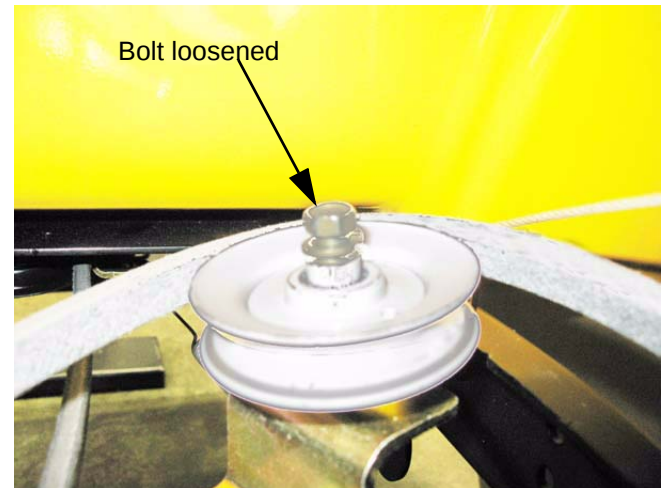

Figure 6.37
1. Remove the upper drive belt from the make-up tensioner pulley as described in the drive belts section of this chapter. See Figure 6.37.